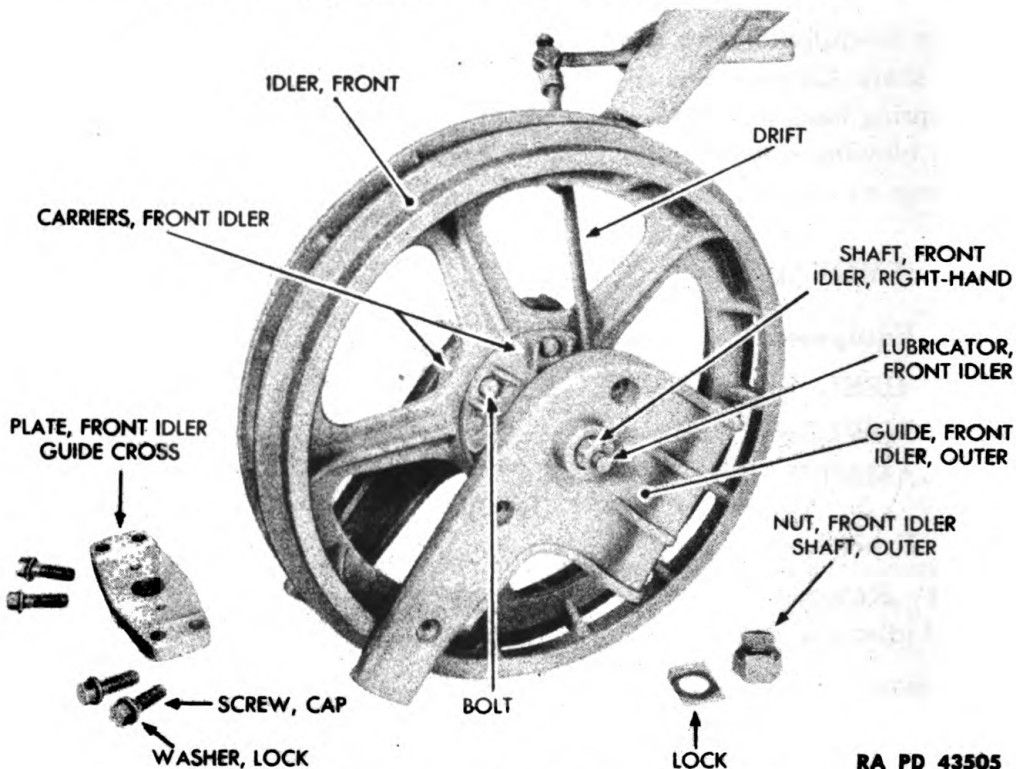

Figure 150 – Right Front Idler Disassembly
- (1) REMOVE RIGHT FRONT IDLER GUIDE CROSS PLATE (fig. 150).
- (3) REMOVE RIGHT INNER AND OUTER FRONT IDLER GUIDES (fig. 150).
- (4) REMOVE FRONT IDLER CARRIERS WITH BUSHINGS (fig. 150).
- (5) LIFT RIGHT FRONT IDLER SHAFT FROM FRONT IDLER (fig. 150).
(6) INSTALL RIGHT FRONT IDLER SHAFT IN RIGHT FRONT IDLER (fig. 150).
(7) INSTALL INNER AND OUTER CARRIERS WITH BUSHINGS (fig. 150).
(8) INSTALL RIGHT INNER AND OUTER FRONT IDLER GUIDES (fig. 150).
(9) INSTALL INNER AND OUTER FRONT IDLER SHAFT NUTS (fig. 150).